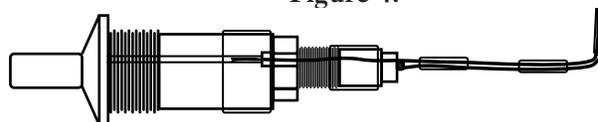

Figure 5.
5. Cut the insulated ends of the two pieces of wire so they are the same length. Tape the insulated ends together so there is only a small “spark gap” between the wires (Figure 5). This is the sparking portion of the modified igniter.